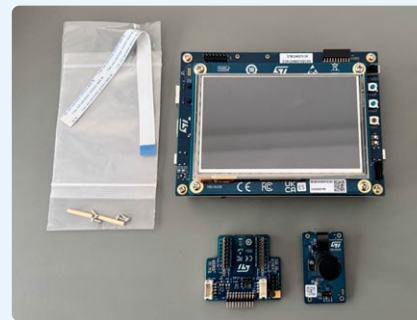
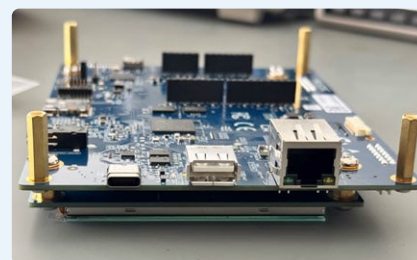
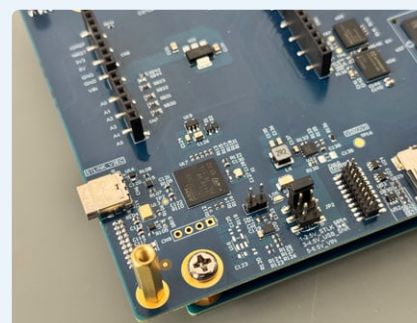

Figure 3: The STM32N6570-DK Development Kit.
Figure 4: On-board connectivity options.
Figure 5: Dedicated USB Type-C port for programming and debugging.
At the forefront, the board features a 5" capacitive multi-touch display that supports up to five touch points, providing an intuitive interface for interactive graphical applications (**Figure 3**). The display's responsiveness makes it ideal for creating user-friendly GUIs and monitoring systems. Connectivity options on the board include an RJ45 Ethernet port, supported by a Realtek controller, ensuring robust and high-speed network communication. Two USB ports — a Type-A port for external peripherals and a Type-C port for data transfer — enhance its flexibility (**Figure 4**). Additionally, programming and debugging are streamlined through a dedicated USB Type-C port equipped with ST-LINK V3, allowing efficient development workflows (**Figure 5**).
This design allows them to have a withstand voltage rating of more than 6 kV and support switching frequencies between 2 kHz and 50 kHz. While the switching frequency range is lower than that of a MOSFET (typically up to 1 MHz), their robustness, power handling, and voltage range more than compensate. Thanks to this, they are deployed in variable frequency drives (VFDs), electric vehicle (EV) chargers, induction heating systems such as cooker hobs, and welding equipment. To get an idea of the sort of applications these devices are used in, you only need to take a look at their massive ceramic packages, complete with threaded bolt holes for the electrical connections (**Figure 4**) — a far cry from your typical TO-220 device!
Figure 4: A 1,200 V, maximum 800 A TRENCHSTOP IGBT module from Infineon measuring 62x107x31 mm and featuring M5/M6 threaded mounts. (Source: Infineon Technologies AG)